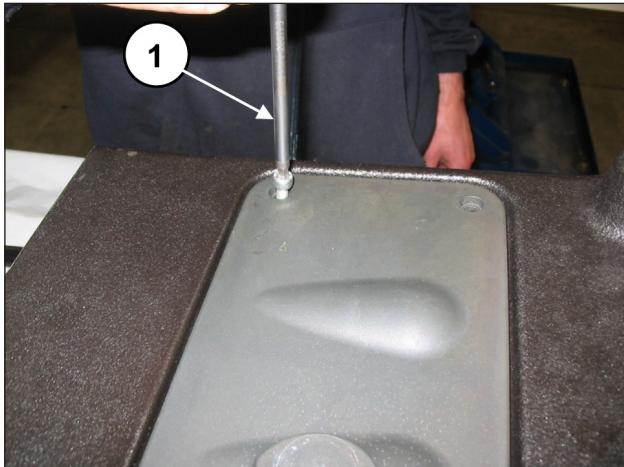
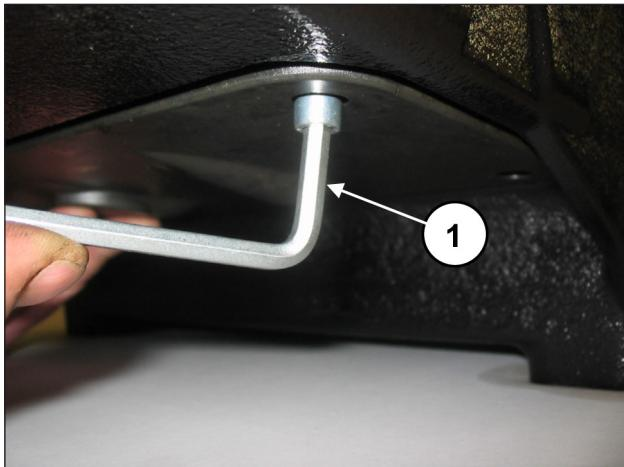

Fig. 139
Fig. 140
Remove the upper inspection cover (pos. ①, Fig. 139) and the lower inspection cover (pos. ①, Fig. 140) unscrewing the 4+4 fixing screws.